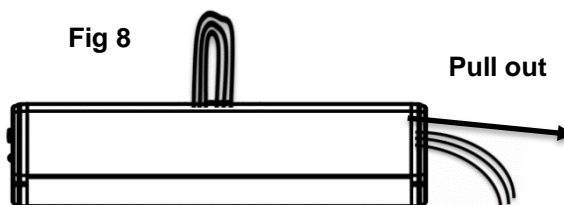

Fig 8
1. Pull out all AC wires from side of the fixture for surface end mounting. (Fig 8)